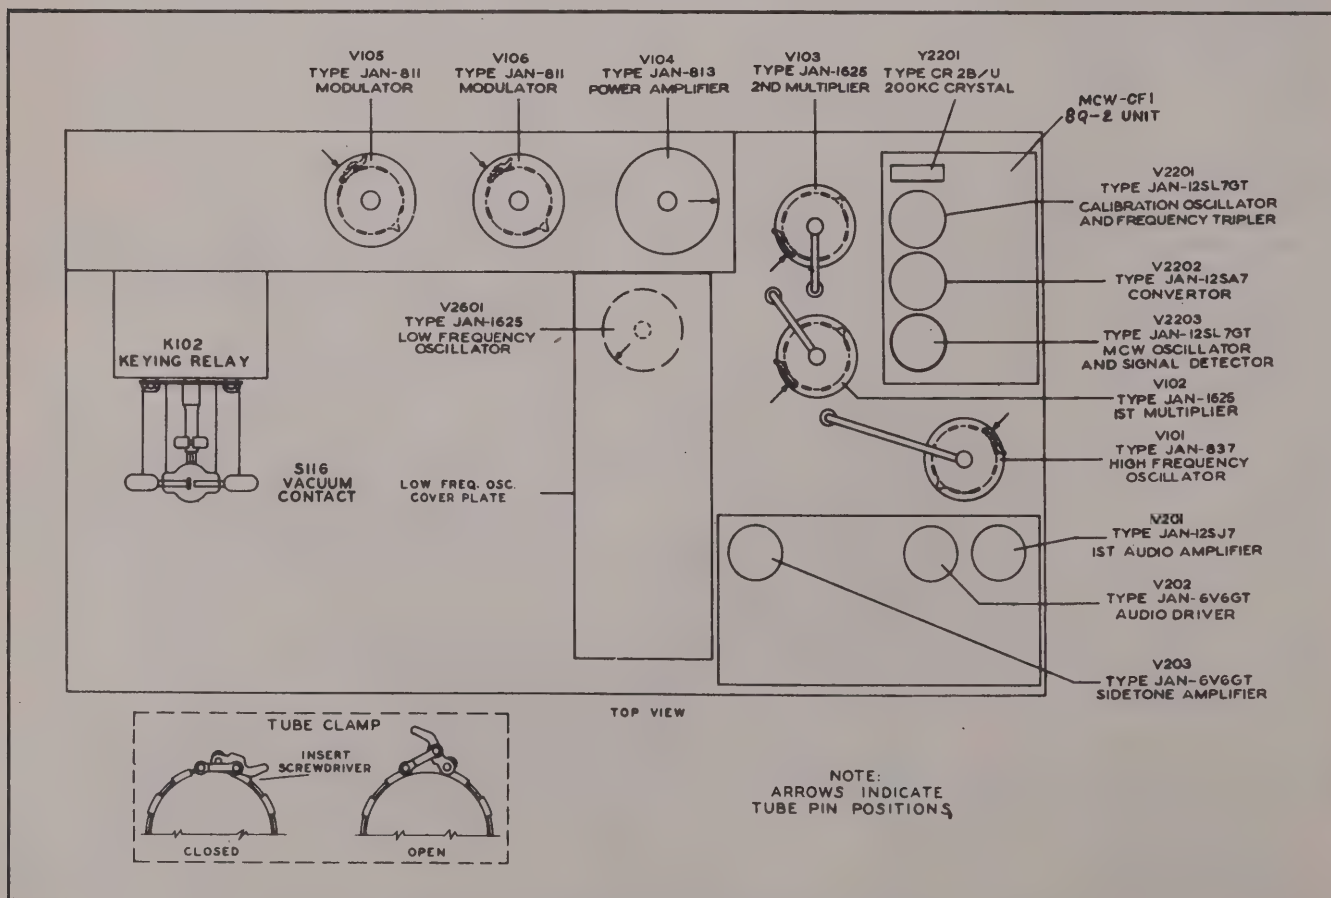

Figure 5-1. Tube Placement Diagram AN/ART-13A
(1) All of the tubes used in this equipment are located in Radio Transmitter T-47A/ART-13 (AN/ART-13A) or Radio Transmitter T-412/ART-13B (AN/ART-13B), and are easily accessible when the top of that unit is removed. Before removing this cover, be sure to turn off entire equipment by setting LOCAL-REMOTE switch to "LOCAL" position and the EMIS-ION switch (on transmitter panel) to "OFF". Also, make certain that the KEY, MICROPHONE and THROTTLE switches are open.
(2) REMOVING TOP COVER OF TRANSMITTER.—One hold-down screw is used at each side of the top cover. To remove the cover, insert a coin or screw driver in each screw and make a half turn counterclockwise. The cover can now be lifted off.
(3) LOCATING TUBES.—The position of each of the tubes used in this equipment is shown in the following illustration. All tubes, with exception of V2601 (Low Frequency Oscillator), are visible and readily accessible when transmitter cover is removed. The Low Frequency Oscillator tube V2601 can be reached by removing the cover of the Low Frequency Oscillator Unit. This unit is located directly behind control "G" and the cover contains numerous ventilation holes. To remove cover, take out screws around the rim of the cover.
(4) REMOVING TUBES.—Tube clamps are used on some of the tubes in this equipment to prevent the tube from coming out of the socket under vibration incident to normal service. The operation of the tube clamp is shown in the insert sketch on figure 5-1. To open clamp, insert screw driver as shown and gently pry open. The clamps on tubes V105 and V106 are accessible through the rear cover plate. Clamps on tubes V102 and V103 can best be reached from top of transmitter. Obtain access to clamp on V101 through side cover plate.